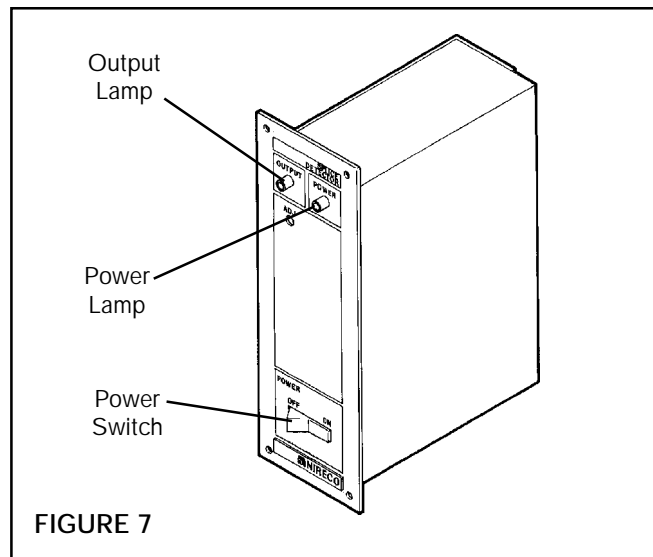

FIGURE 7
1. With a single thickness of web in the light path of JD100, set Power Switch to **ON**. Power Lamp should light (See Fig.7.